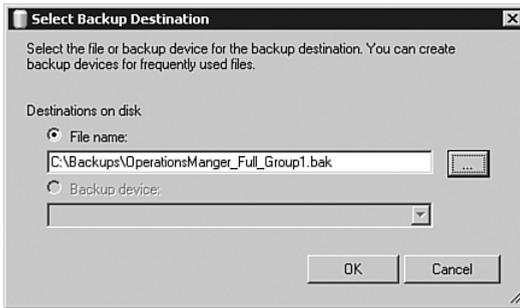

FIGURE 12.6 The Select Backup Destination screen.
4. SQL Server Management Studio next displays the Select Backup Destination screen, shown in Figure 12.6.